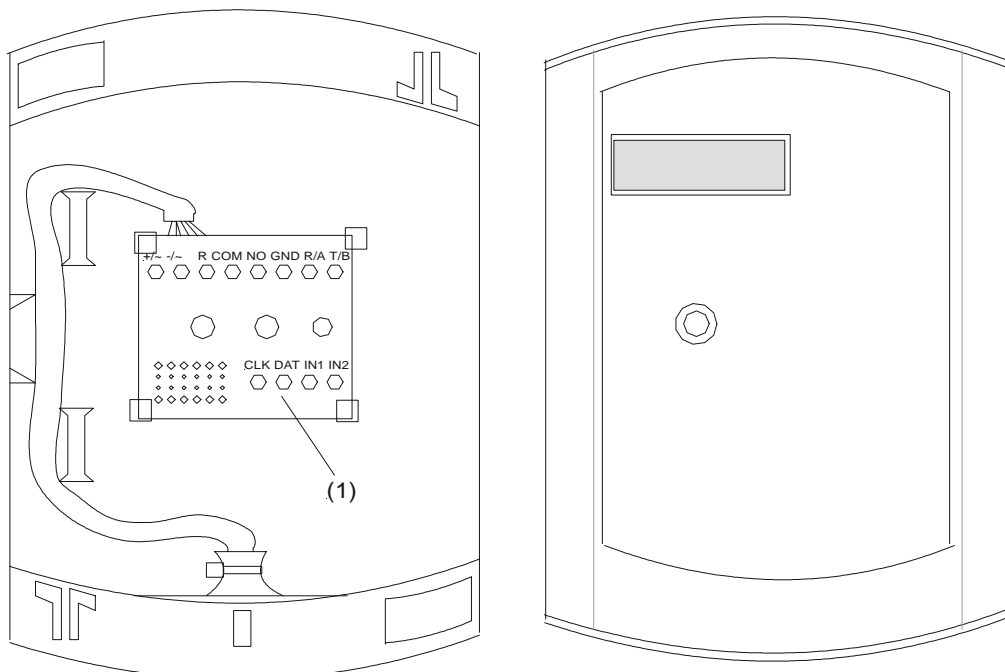

Fig 3: Surface installation (LED top left)
- Snap-in connection board (1) to bottom part of casing according to Fig 3 with the connectors in downward direction. In order to do this, press the notches slightly apart with your fingers.